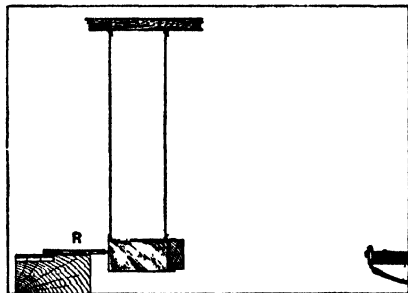

FIG. 64.—Measuring a bullet's speed by a ballistic pendulum.
All the methods we have described measure the average speed of something over a distance: there are one or two ways of measuring the speed of a thing at a particular moment. The first is simple. Let it collide with something and see how hard it hits! This would not be of much use for a racing car, but it does very well for a bullet! If the bullet is fired so that it beds itself in the wooden face of a heavy pendulum slung in the particular way shown in Fig. 64, the faster the bullet is travelling, the further the pendulum will be swung backward. The distance it swings can be measured by letting it push a brass rod (R) back over a scale. Suppose the pendulum weighs 120 lbs., and the bullet  $\frac{1}{18}$  lb., and the pendulum took  $\frac{3}{4}$  second to swing from right to left and it was pushed back three inches by the blow of the bullet then not very difficult mathematics show the speed of the bullet to be